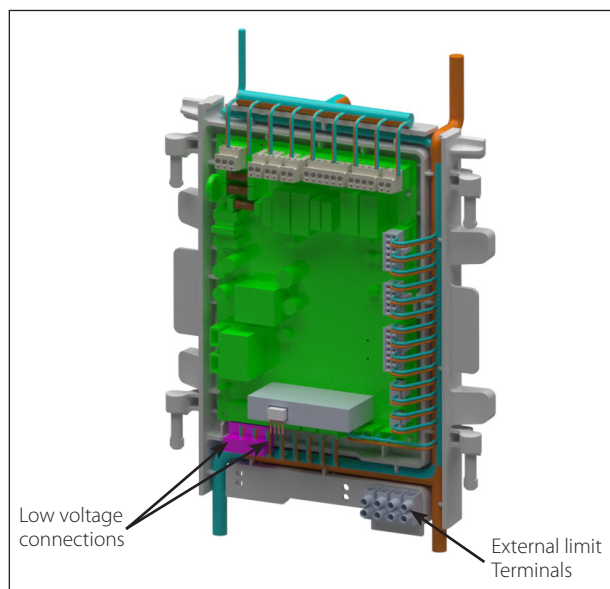

Fig. 31 - Low Voltage Connections
The low voltage terminals are located at the bottom of the CTRLMax control module. The line voltage terminals are located in the lower left corner as shown in Fig. 31 on the right.
1. Connect the DHW aquastat or temperature sensor wires to low voltage terminals X4-1&2 located at the bottom of the CTRLMax control module as shown in *Fig. 31 on page 47*.
3. Connect the external limit wires to the Manual Reset Limit or Auto Reset Limit low voltage terminals located on the lower right corner of the CTRLMax control module housing as shown in *Fig. 31 on page 47*.
1. Connect the system temperature sensor wires to low voltage terminals X5-3&4 located at the bottom of the CTRLMax control module as shown in *Fig. 31 on page 47*.